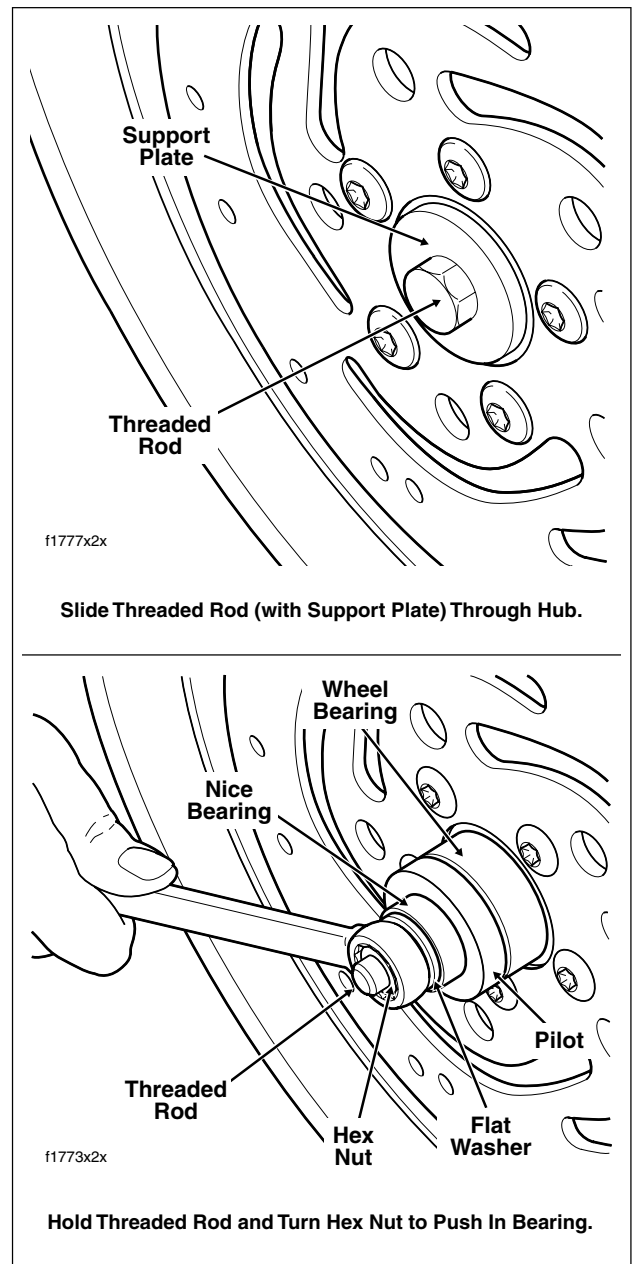

Figure 2-6. Install Sealed Wheel Bearings
- Slide support plate onto threaded rod. Slide rod through hub on the valve stem side of the wheel. See upper frame of Figure 2-6.
- f. Holding threaded rod on opposite side of wheel to prevent rotation, turn hex nut to install bearing. See lower frame of Figure 2-6. Bearing is fully seated when it makes firm contact with the counterbore.